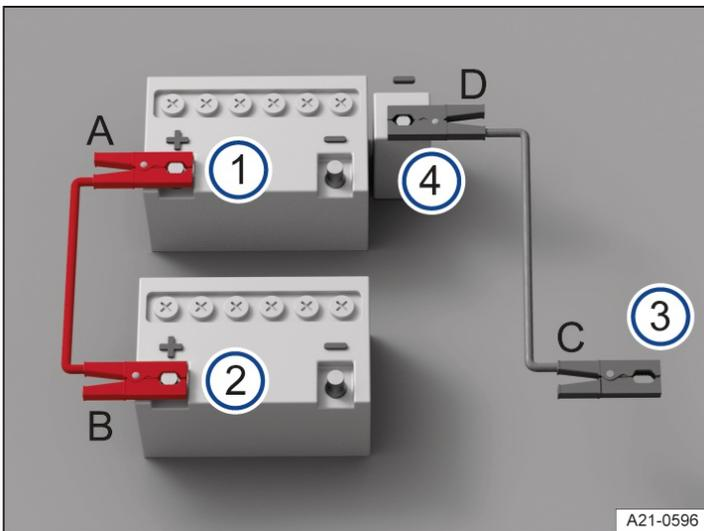

Fig. 1 Diagram showing how to connect jump leads in vehicles with a 12-volt vehicle battery in the engine compartment.
Connect the jump leads only in the order A - B - C - D → Fig. 1.
3. Connect one end of the red jump lead to the positive terminal(+) of the 12-volt vehicle battery with the discharged 12-volt vehicle battery → Fig. 1 ① → ⚠.
4. Connect the other end of the red jump lead to the positive battery terminal(+) of the vehicle providing assistance → Fig. 1 ②.
5. Connect one end of the black jump lead preferably to an earth jump-start connection point(-) on the vehicle with the 12-volt vehicle battery providing assistance → Fig. 1 ③.
Or: if no earth jump-start connection point(-) is present, connect the end of the black jump lead to a solid metal part that is securely bolted onto the cylinder block or to the cylinder block itself on the vehicle with the 12-volt vehicle battery providing assistance → Fig. 1 ③.
6. Connect the other end of the black jump lead to the earth jump-start connection point(-) on the vehicle with the discharged 12-volt vehicle battery → Fig. 1 ④ → ⚠.